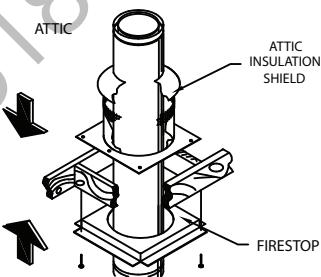

Figure 9
- c. Slip the Attic Insulation Shield over the Chimney until the base sits squarely on the framed opening (Fig. 9).